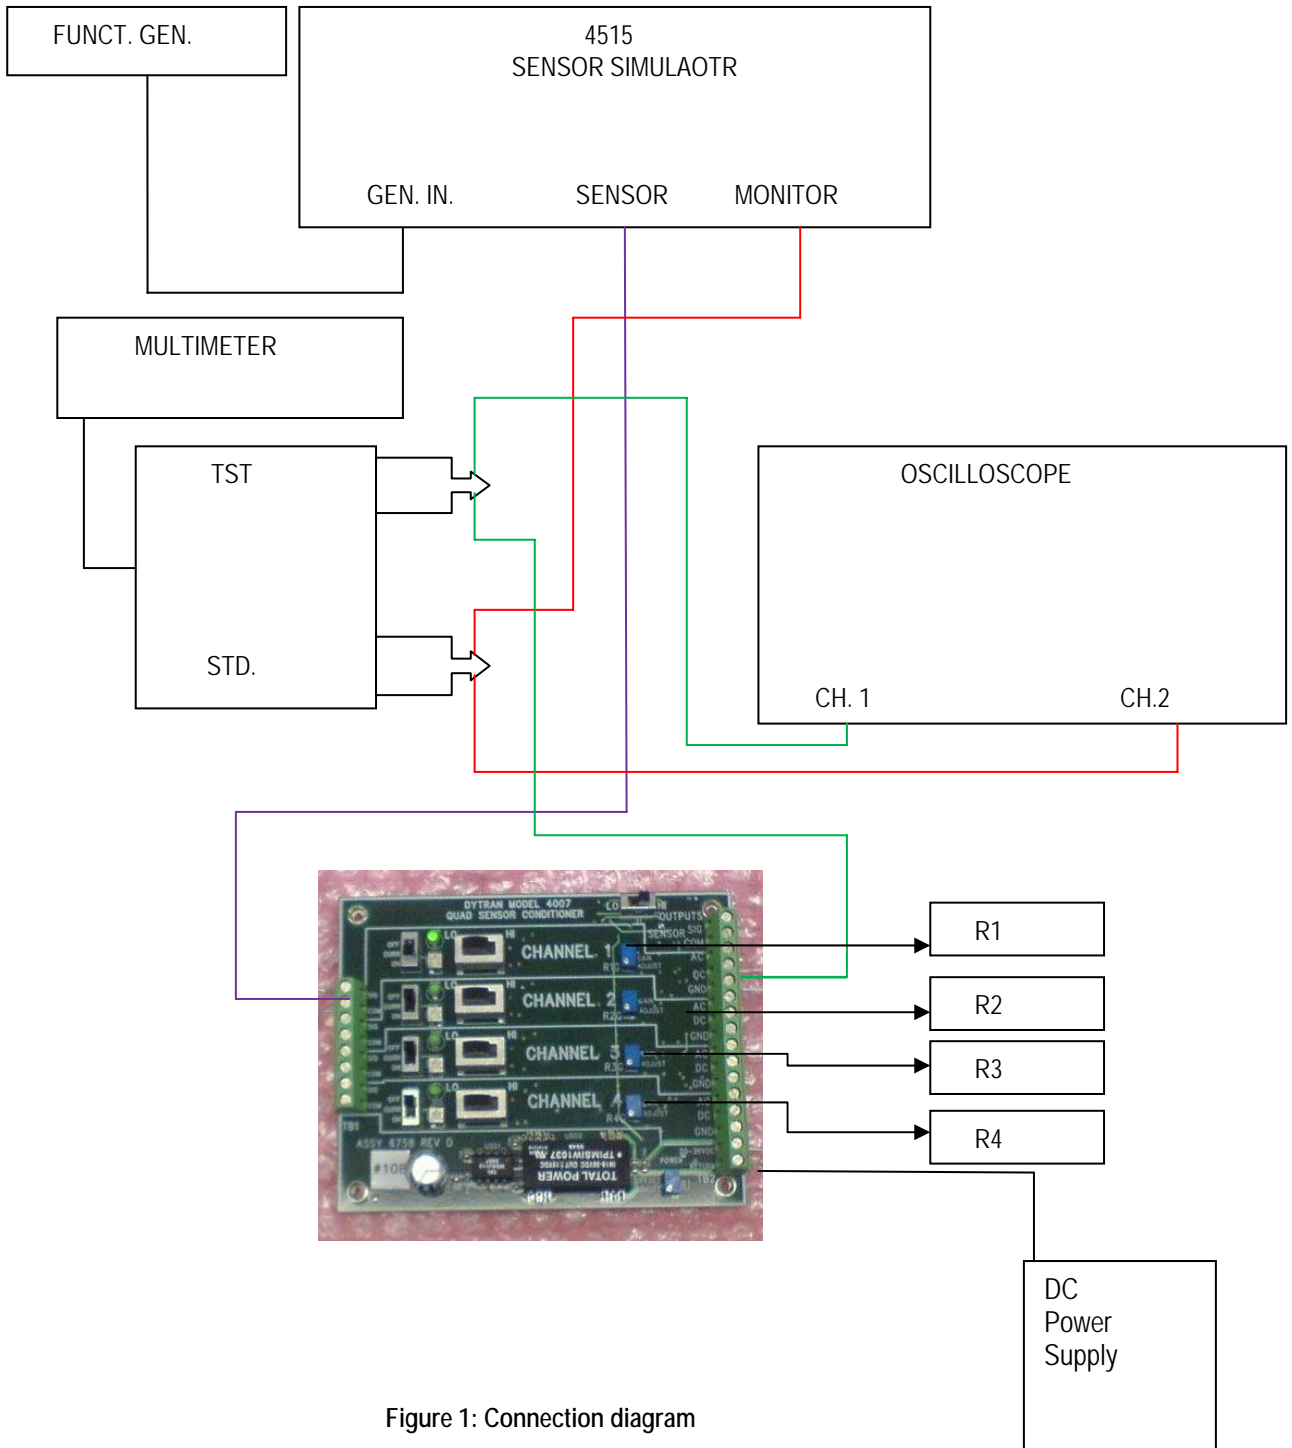

Figure 1: Connection diagram
- Equipment must be connected as shown on figure 1.
- Print out 4007 blank certificate from the Manufacturing drive (M). (Calibration Certificates, New Certificates, Electronics, 4007)
- Set function generator to 150GRMS = 1.5VAC input, adjust the gain pot R2 on each channel to obtain the reading DC CALCULATION (V).